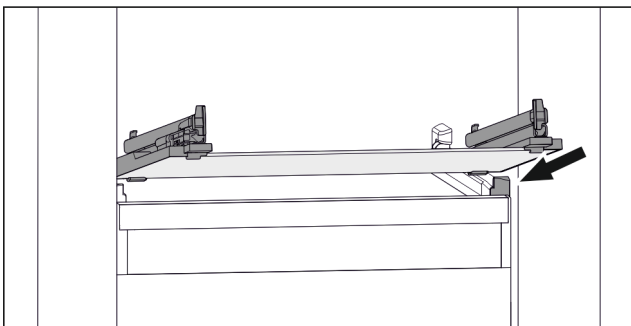

Fig. 40 Example illustration of glass shelf
- Position glass shelf at an angle behind the stoppers. (see Fig. 40)